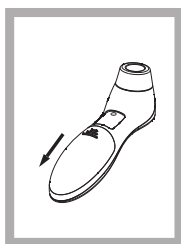

Figure 9
- Slide battery cover down as shown in Figure 9.